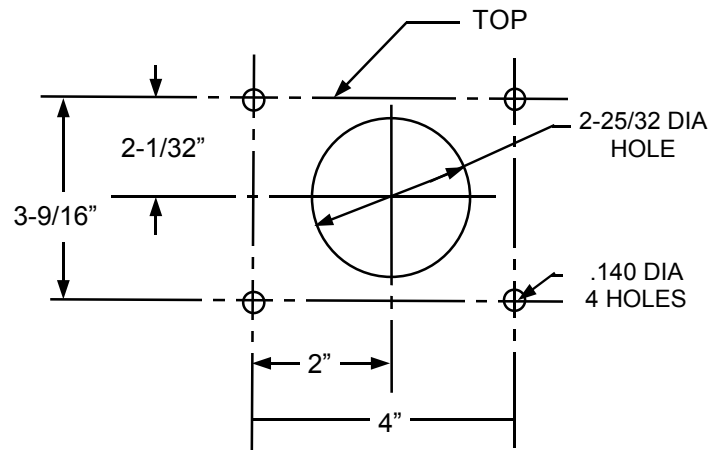

Figure 2
- b) To mount without enclosure: Remove meter from enclosure by removing the screw on either side of the case and panel mount according to the cutout dimensions shown in Figure 2.